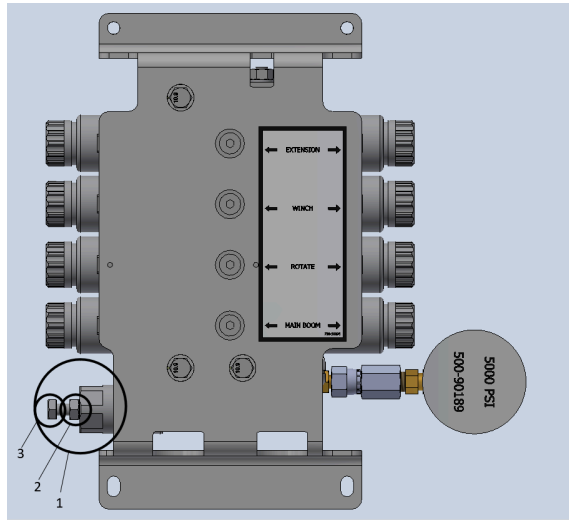

Figure 3-1.
4. Loosen jam nut (Figure 3-1, Item 2) on the relief valve (Figure 3-1, Item 1).
5. Turn relief valve screw clockwise (Figure 3-1, Item 3) if hydraulic system relief pressure needs to be increased, or counterclockwise if hydraulic system relief pressure needs to be decreased.
6. Tighten jam nut (Figure 3-1, Item 2) on relief valve (Figure 3-1, Item 1).